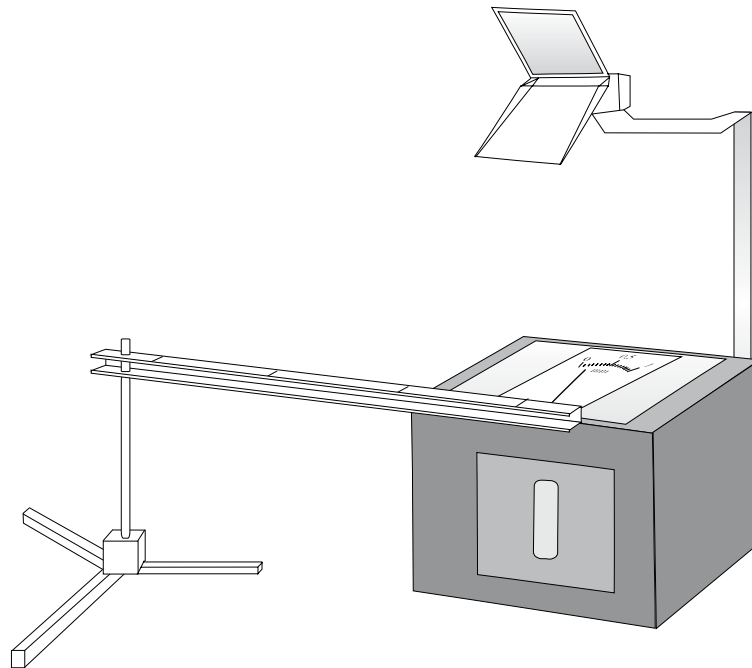

Figure 2
- ① Fixed mount with screw for securing tube and securing screw
- ② Screw for stand (see Fig. 2)
- ③ Base strip
- ④ Spring clip for securing hose
- ⑤ Guide mount with gears for pointer
- ⑥ Testing tubes
- ⑦ Pointer
- ⑧ Scale
are three testing tubes made of steel, brass and glass. Suitable for projection using a daylight projector (see Fig. 2).